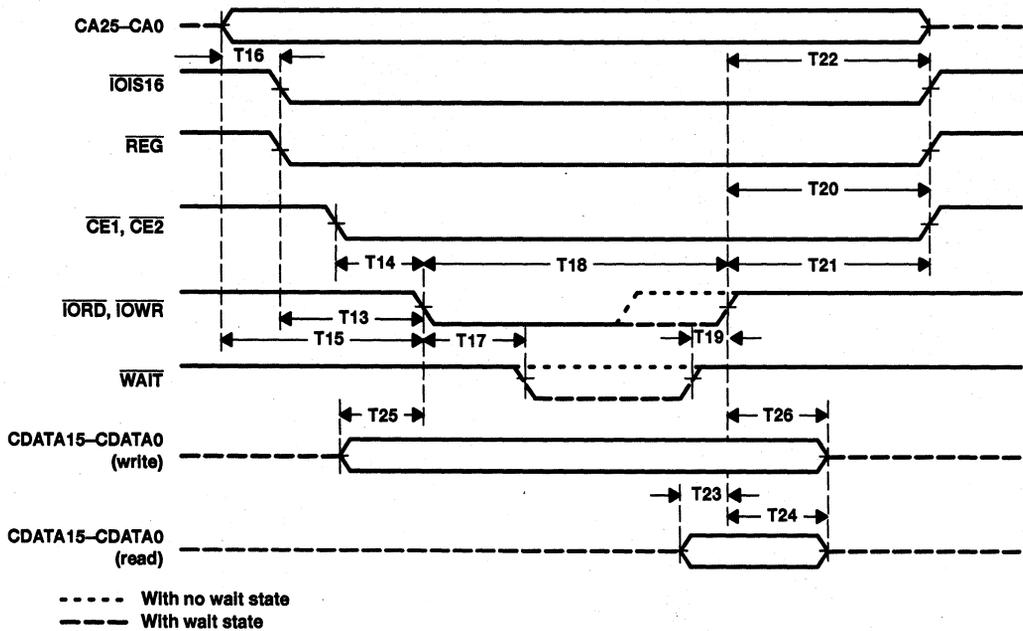

Figure 8. PC Card I/O Cycle
**timing requirements over recommended ranges of supply voltage and operating free-air temperature, I/O cycle (see Figure 8 and Tables 9 and 10)**